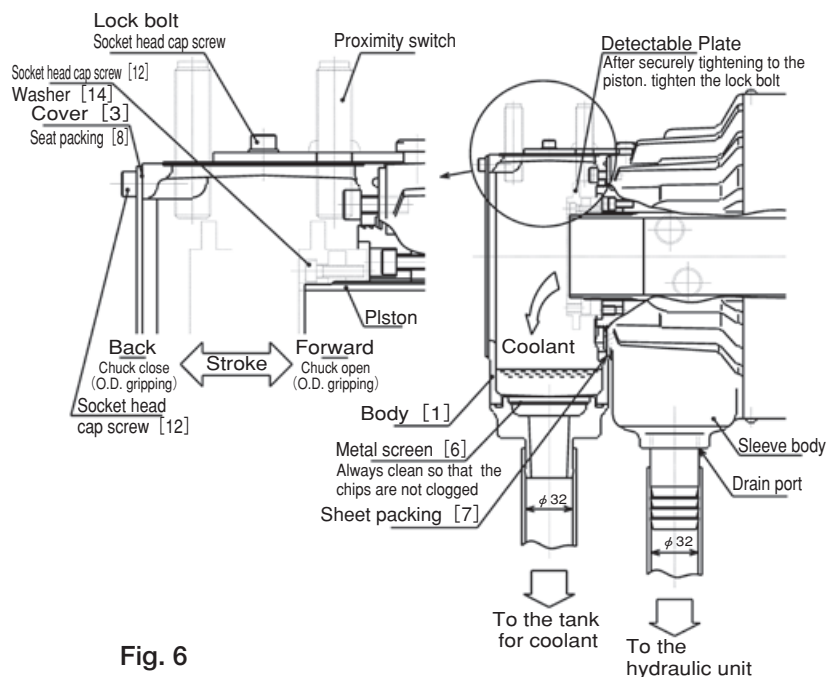

Fig. 6
(Inside diameter $\phi 32$) (Fig. 6)
Read following instruction when you adjust the proximity switch. (Fig.6)
- If the coolant overflows from the coolant collector, the coolant is flows to the sleeve body side. Always clean the punching metal so that the coolant does not stagnate inside the coolant collector. Be sure the chips are not clogged. (Fig. 6)